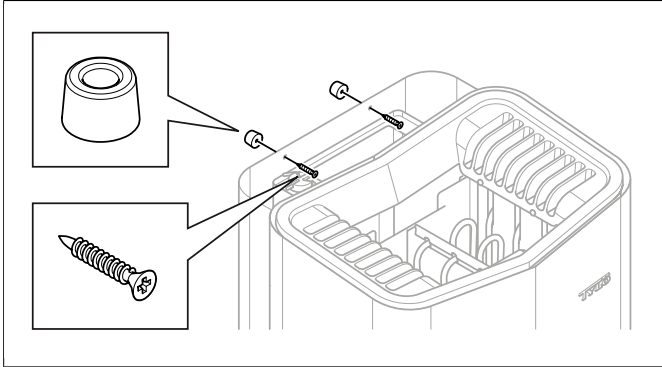

Figure 12: Fit spacers
10. Fit the spacers between heater and wall (to prevent the heater from being lifted off) (see **Figure 12**, Page 6).